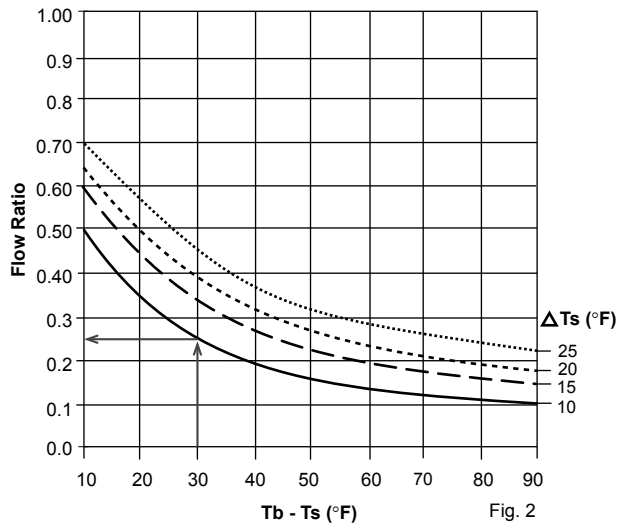

Fig. 2
- 3) Compute $T_b - T_s$. Look up the ratios in figure 2.